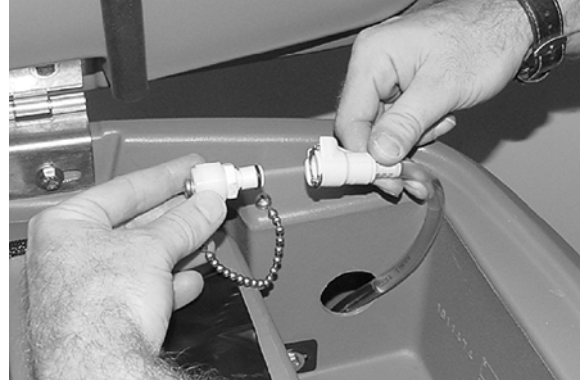

FIG. 11
- When the supply hose is not in use, make sure to connect it to the storage plug (Figure 11). This will prevent the FaST system from drying out and clogging up the supply hose.